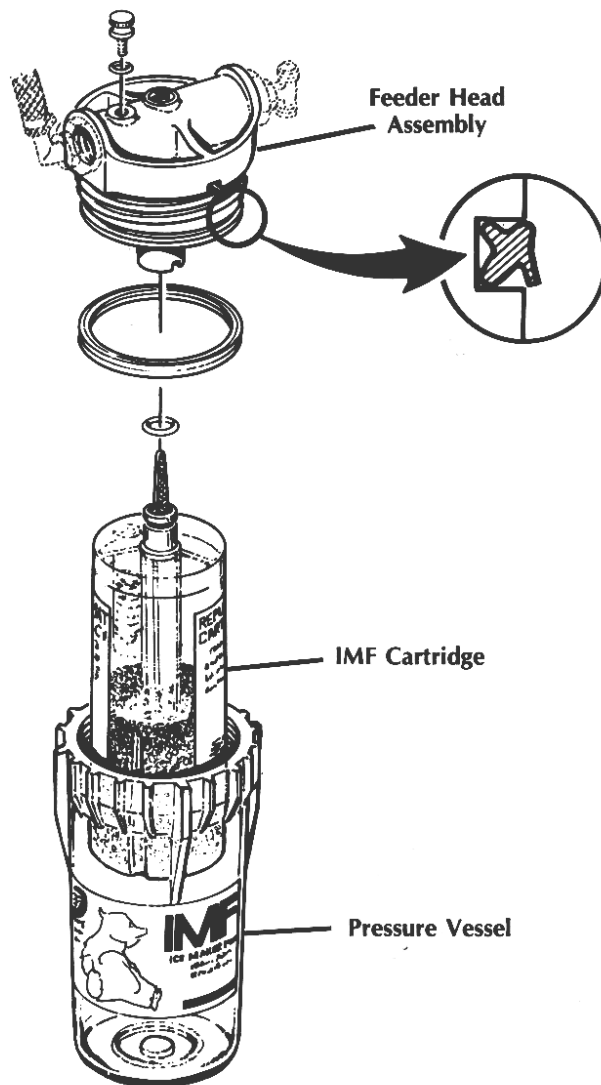

Figure 5
6. **REMOVE PROTECTIVE WRAPPING** and place new IMF cartridge into pressure vessel. Move pressure vessel with cartridge to feeder head assembly. Holding the pressure vessel in 1 hand with the new cartridge inside the vessel, grasp the new cartridge with the other hand and carefully insert new IMF cartridge into the fitting in the feeder head assembly. (Figure 5)